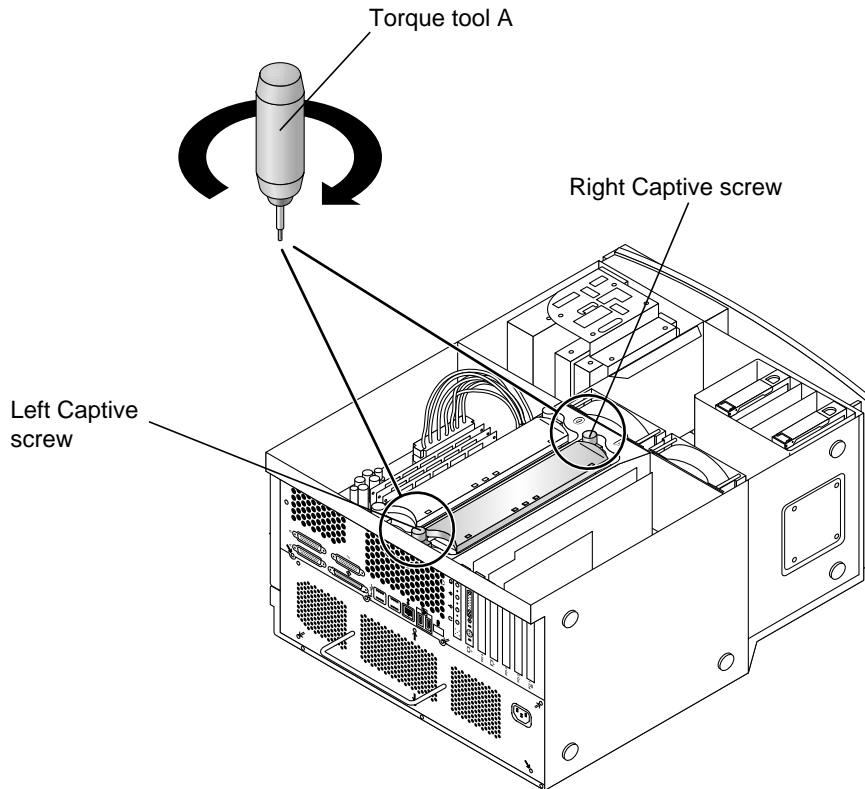

FIGURE 15 Alternately Rotating Left and Right Captive Screws One Turn Clockwise
10. Use torque tool A to rotate the left captive screw one turn clockwise (see FIGURE 15).
11. Use torque tool A to rotate the right captive screw one turn clockwise (see FIGURE 15).